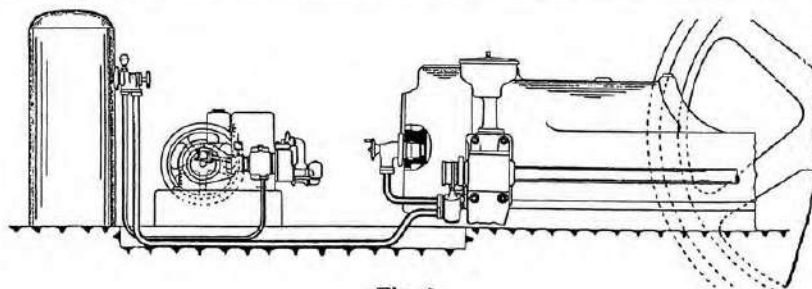

Fig. 8.
- (3) On sizes O & OE 126 & 128 and O or OE 220 to 228, as illustrated in Fig. 8, the working apparatus consists of an independent engine and compressor combined. The small engine can be arranged to work on town's gas paraffin or petrol, and can be run at any time independently of the main engine.